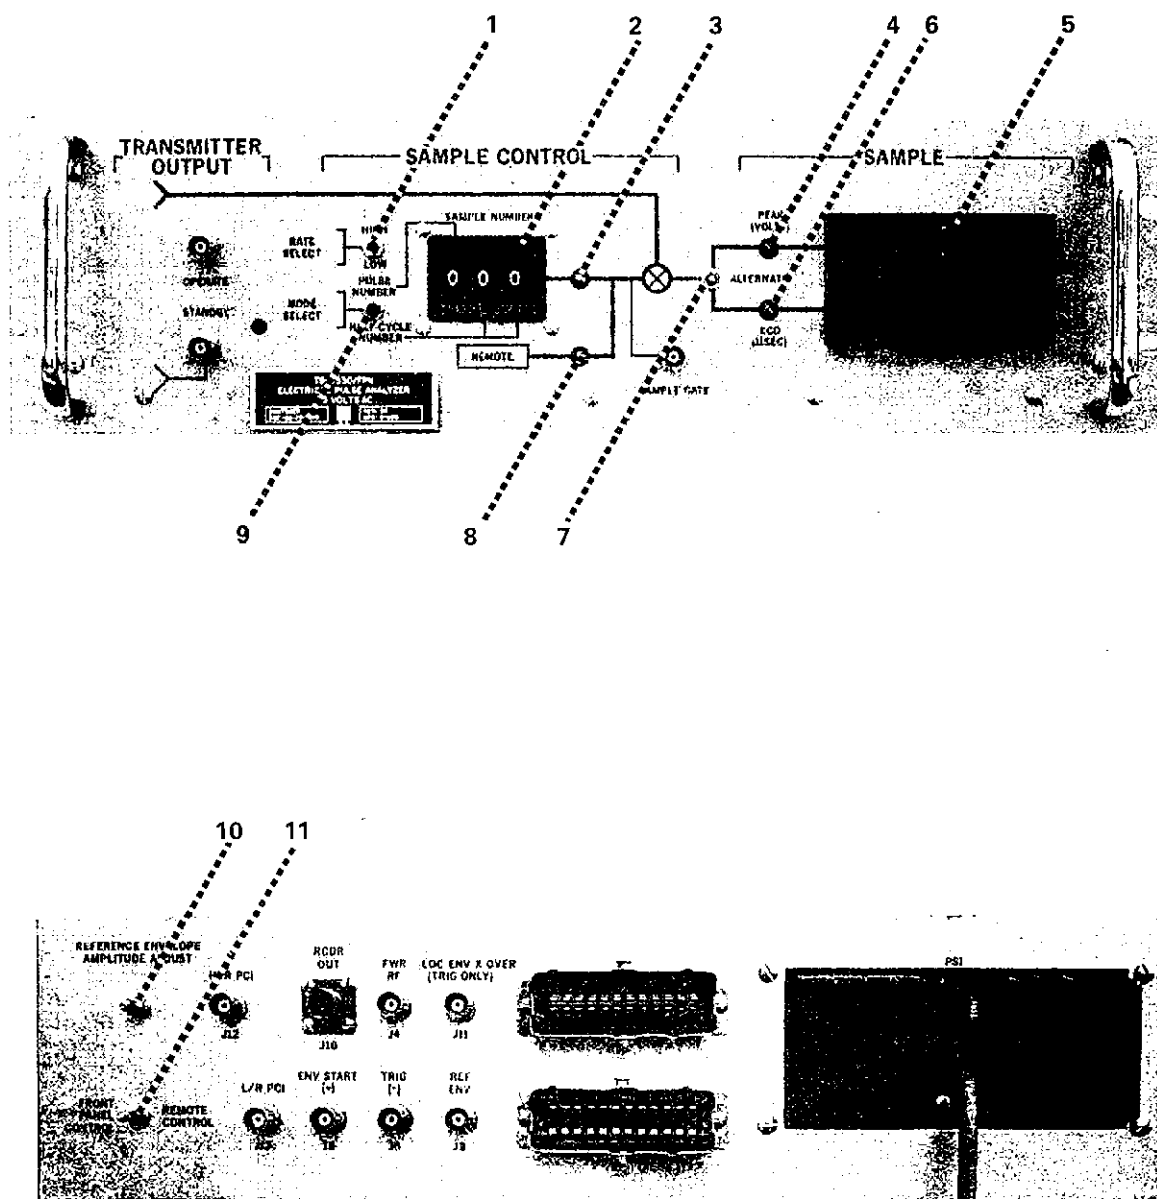

Figure 3.3. EPA Controls and Indicators
3.2.3 Electrical Pulse Analyzer. The following are the controls and indicators of the EPA (see Figure 3.3):